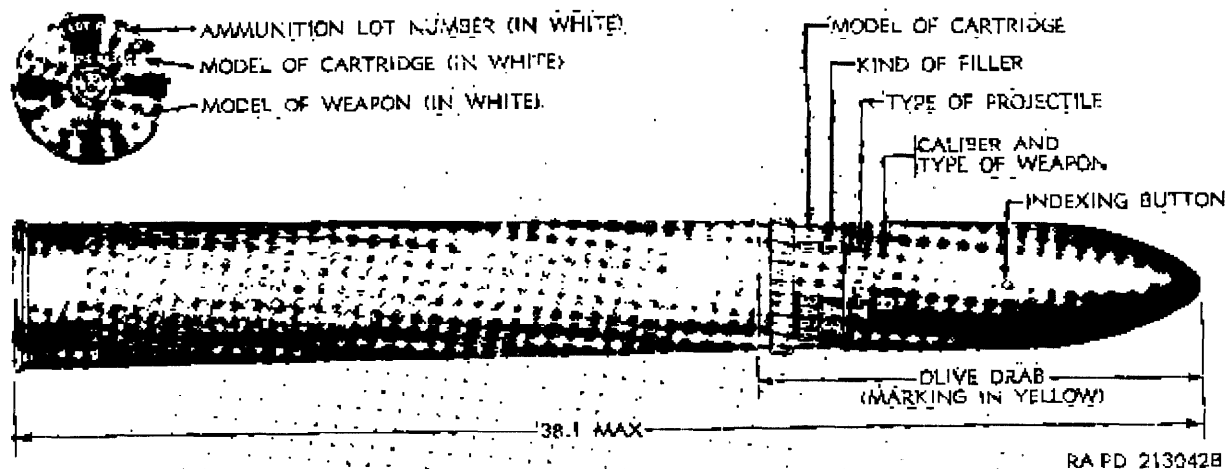

Figure 14. Cartridge, 106 millimeter: H&P T, M358A1, w/fuze, RD, M91A1.
*a. General.* This is a special high-explosive cartridge (fig. 14) intended primarily for defeat of armor. The plastic-lined cartridge case M94B1 (T75) (or alternative M94) is crimped to the high-explosive projectile by means of four equally spaced ball-point crimps. The projectile consists of a relatively thin-walled steel body containing a bursting charge of 7.72 pounds of Composition A-3. The projectile has a preengraved rotating band and two manganese bronze indexing buttons at the bourrelet to facilitate insertion of the cartridge into the tube.